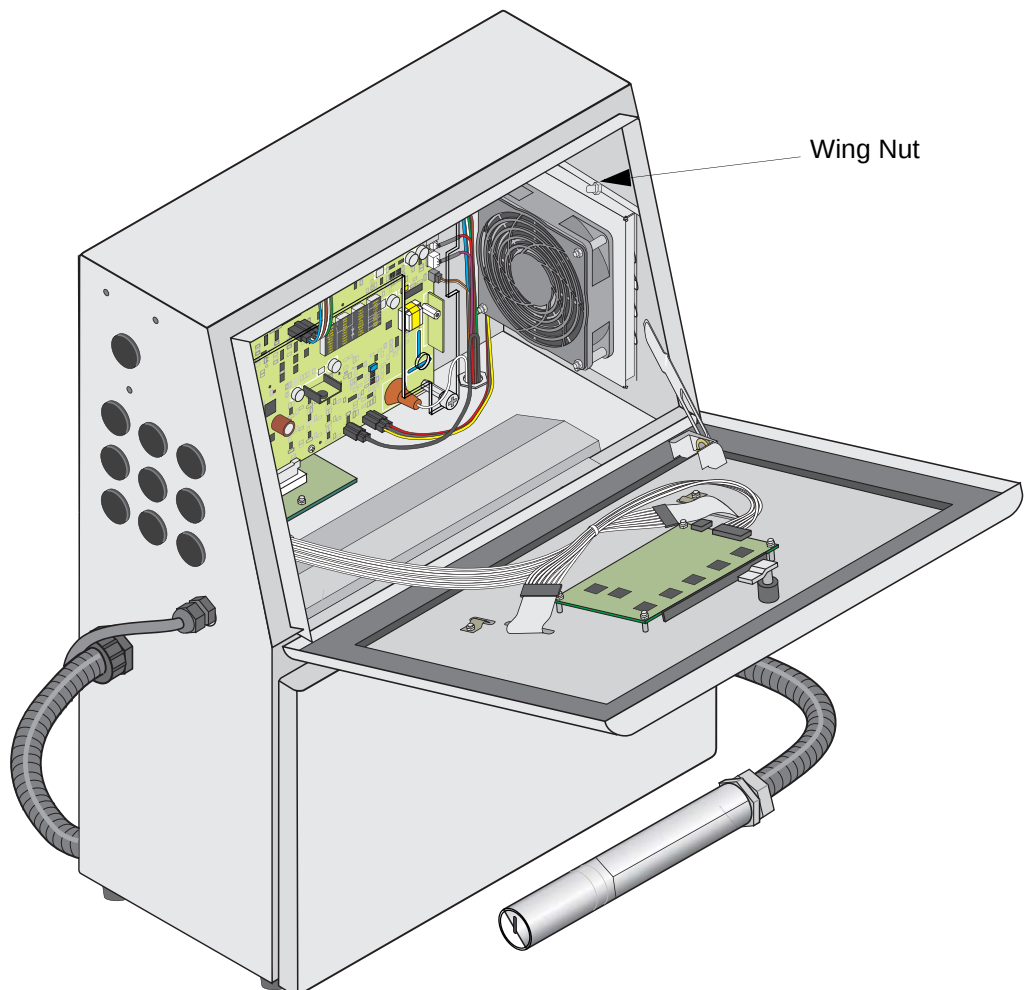

Figure 7-8: Retaining Wing Nut in the Fan Assembly
- 3 Remove and retain the wing nut (Figure 7-8) that secures the fan assembly, by turning it counterclockwise.